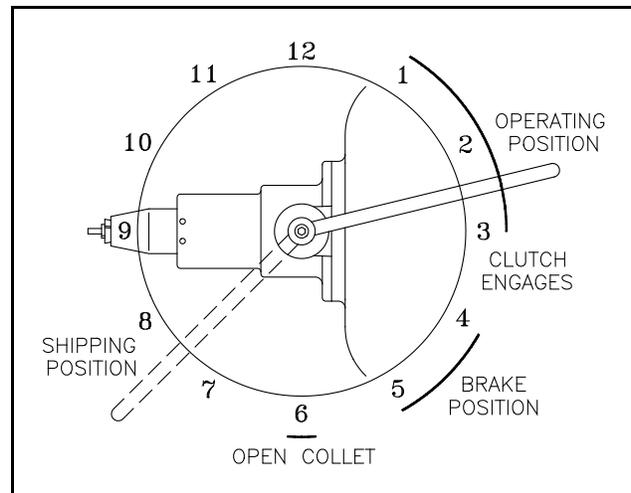

Figure 2.
- 5.1.1 Work is done with the handle in the operating position at approximately 2:30 o'clock. See Figure 2.
- 5.2.1 From the operating position, move the handle to the open collet position (6:00 o'clock). See Figure 2.